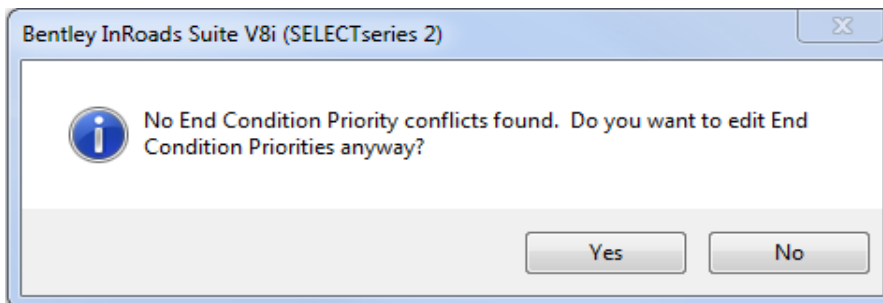

Figure 6-24 InRoads Edit End Condition Priorities Notification
- F. If a message box appears stating that there are no conflicts, then proceed by either clicking **Yes** and continue to review or click **No** to change priorities. Below, Figure 6-24 shows this message box.